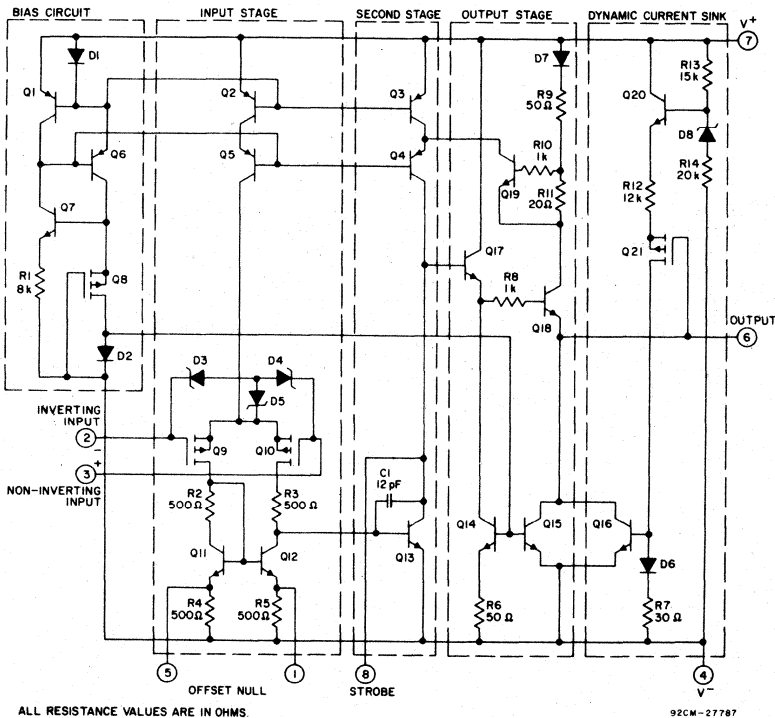

Fig.3 – Schematic diagram of CA3140 series.
**Input Stages** – The schematic circuit diagram of the CA3140 is shown in Fig.3. It consists of a differential-input stage using PMOS field-effect transistors (Q9, Q10) working into a mirror pair of bipolar transistors (Q11, Q12) functioning as load resistors together with resistors R2 through R5. The mirror-pair transistors also function as a differen-